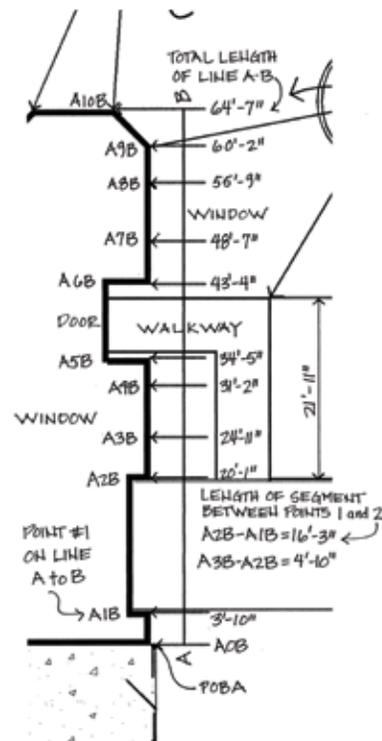

FIGURE 4. Baseline measurements along wall A–B (Credit: Gail Hansen)
Baseline or running measurements (Figure 4) are used for a series of measurements along a surface or wall. Stretching one tape along the edge of a wall or fence eliminates the need to continually move the tape and reduces error in measurements. Take baseline measurements as follows:
4. Calculate distances between points by subtracting the running measurements. For example, if you want to know the width of a window from point 3 to point 4, subtract the measurement of point 3 from point 4. In Figure 4, point 4 on line A–B = 31'2", point 3 = 24'11"; therefore, $A4B - A3B = 6'3"$.